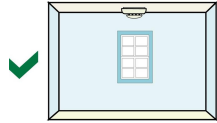

Figure 3.5: Best location
- Install basement sensors on the ceiling as close to the center of the room (*Figure 3.5*) as possible. If this is not practical, install the sensor on the ceiling no closer than 10 cm (4 inches) from any wall or corner.